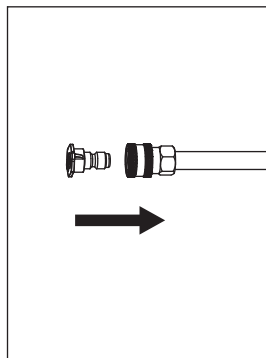

Figure 12 - Insert the nozzle to quick connector on lance (PW190200 only)
9. Rotate the lance to gun. Insert the nozzle to quick connector on lance by pulling back the connector sleeve. (See Figures 12 & 13) (PW190200 only)